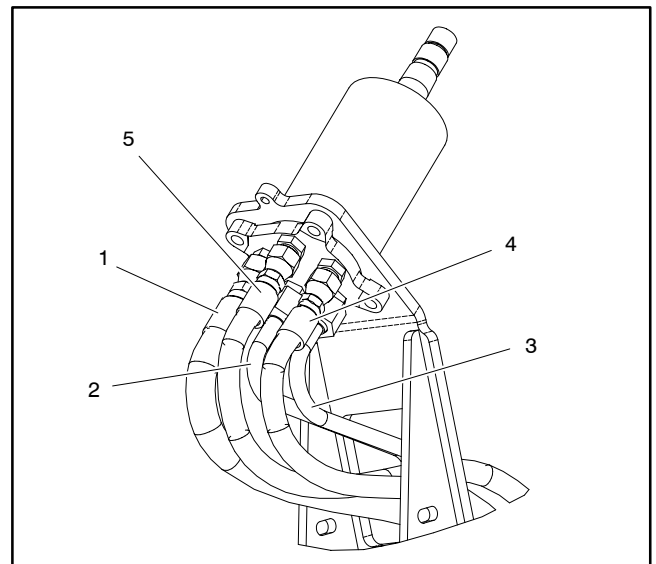

Figure 55
1. Position steering control valve to frame. Secure steering control valve to steering column with four (4) cap screws.
3. Lubricate new o-rings and connect hydraulic hoses and tubes to steering control valve (Fig. 55). Use labels placed during the removal process to properly install hoses and tubes to steering control valve. Tighten connections.